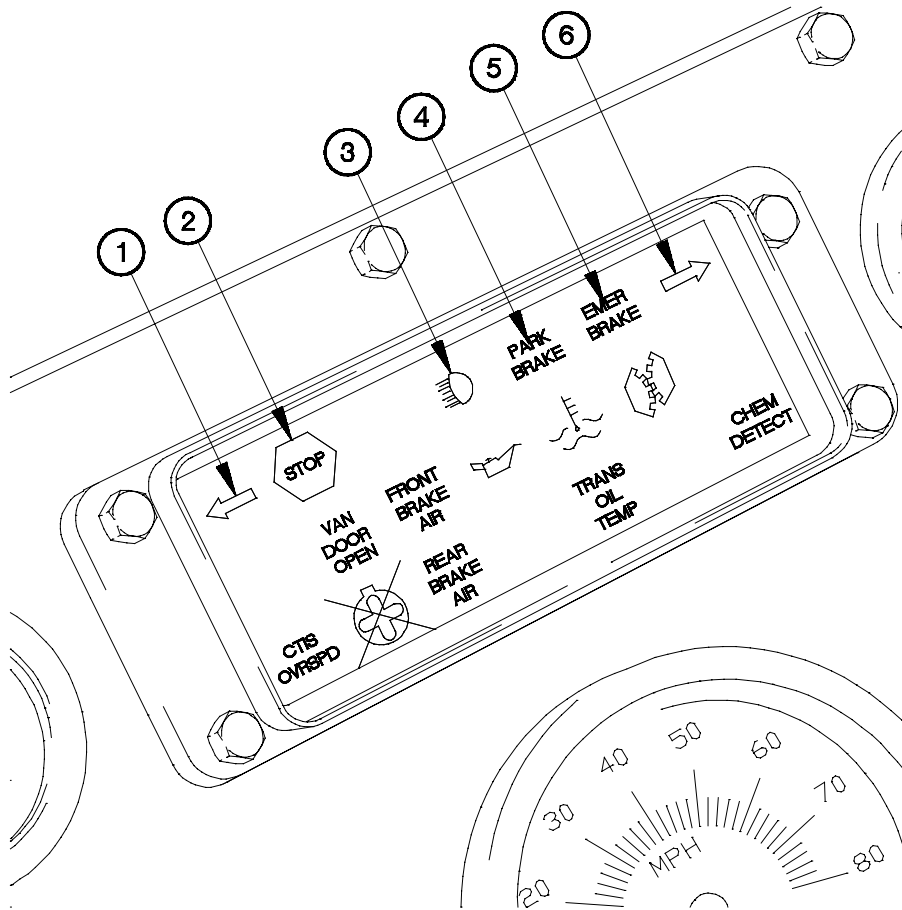

Figure 2-2. Lighted Indicator Display
b. **Lighted Indicator Display.** Figure 2-2 shows all indicators on the lighted indicator display.